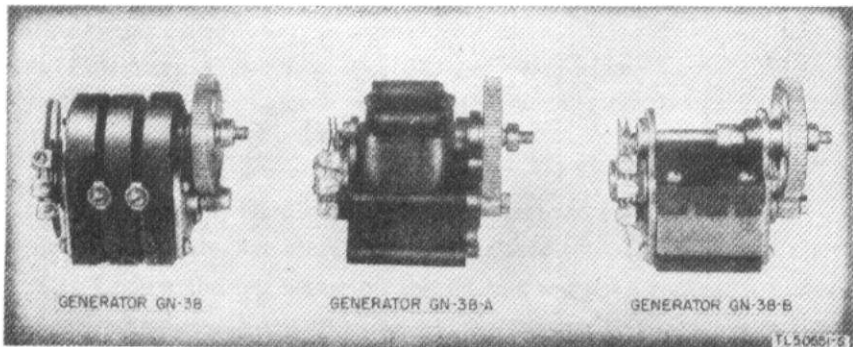

Figure 24. Generators GN-38, GN-38-A, and GN-38-B
b. **GENERATOR (FIG. 24)**. Generator GN-38 has three small cobalt steel permanent magnets arranged in two pole faces about an armature. Generator GN-38-A has a rotating magnet with stationary coils. Generator GN-38-B has two stationary magnets and two pole pieces arranged alternately about an armature. The generator switch consists of spring contacts which in normal position connect the ringer across the line, but which upon rotation of the crank disconnect the ringer and place the output of the generator across the line. The crank handle folds into the metal-faced recess on the right side of the case.